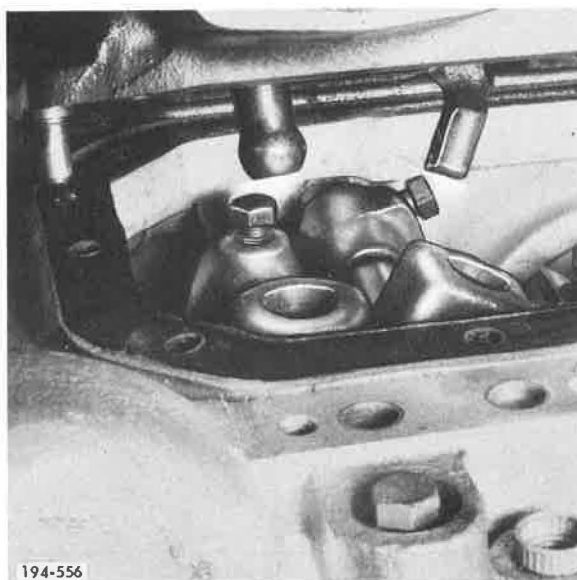

Figure 430. Installing Cover
2. Install air shift cover, being careful that shift levers engage shift forks. See Figure 430.